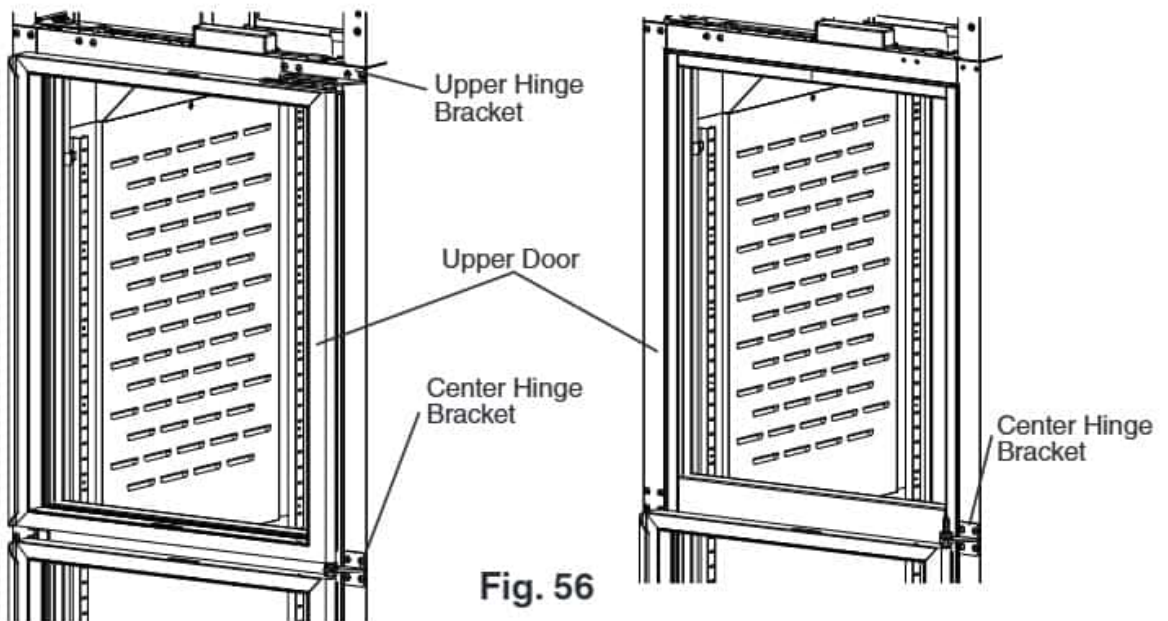

Fig. 56
8) Close the upper door, while maintaining a hold on the door, remove the upper hinge bracket, then lift the door off the center hinge bracket upper pin and set aside. See Fig. 56. Retain the upper door thrust washer and the center hinge bracket thrust washers and washer for opposite side hinge bracket installation. **NOTICE!** Thrust washers must be in place to prevent wear and damage to the hinge brackets.